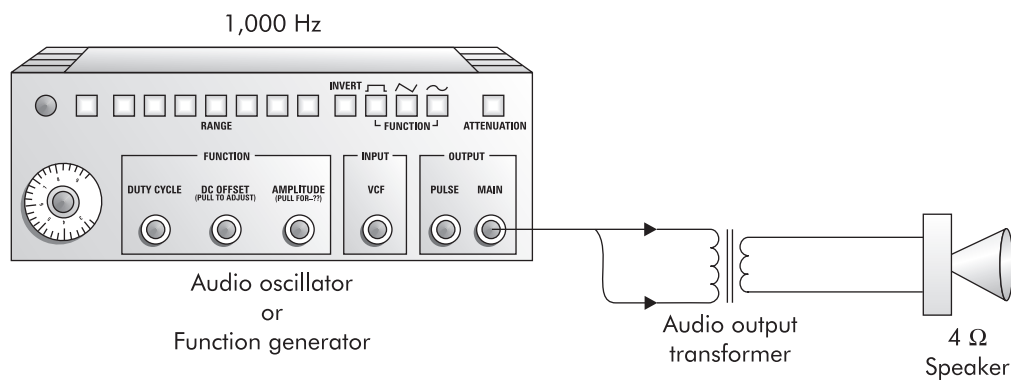

FIGURE 46-2 Optional circuit
4. Connect a 4- Ω speaker to the secondary, Figure 46-2. Measure the voltages and determine the Z ratio.